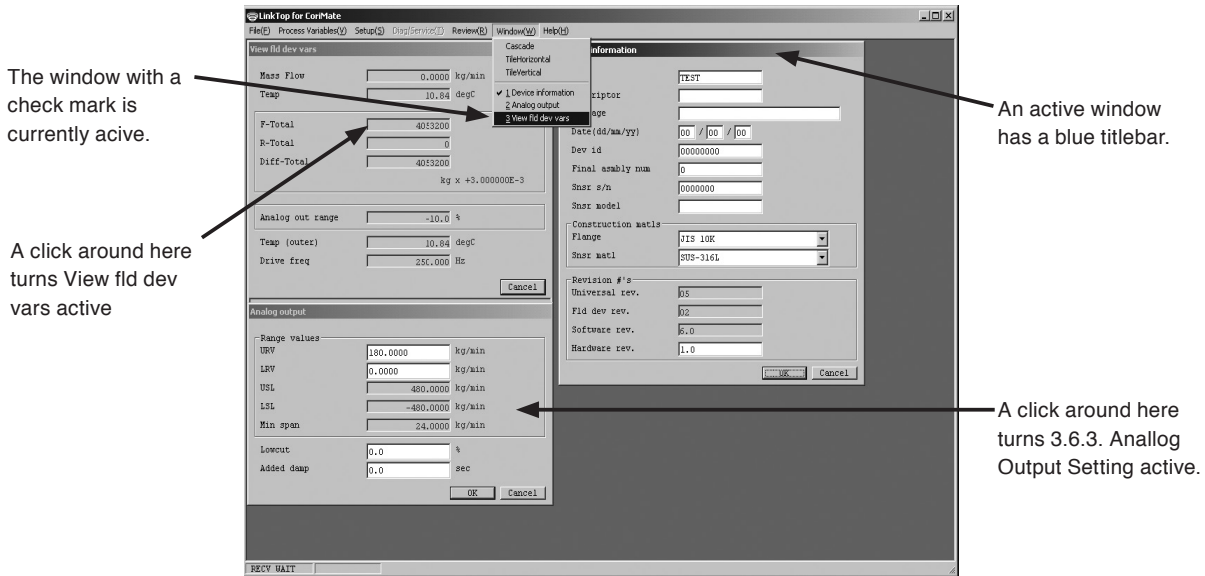

Fig.86
- ① If three message boxes are present on the screen as shown in Fig. 86, for example, clicking on "Window (W)" at the menu brings the names of these message boxes to appear in the window with a check mark before the active one.
- ② Clicking on the name of the window you want to activate turns that window active.
- ③ Active and inactive can be selected by another approach : clicking on any part of the message box you want to make active on the screen turns that window active. See Fig. 86.